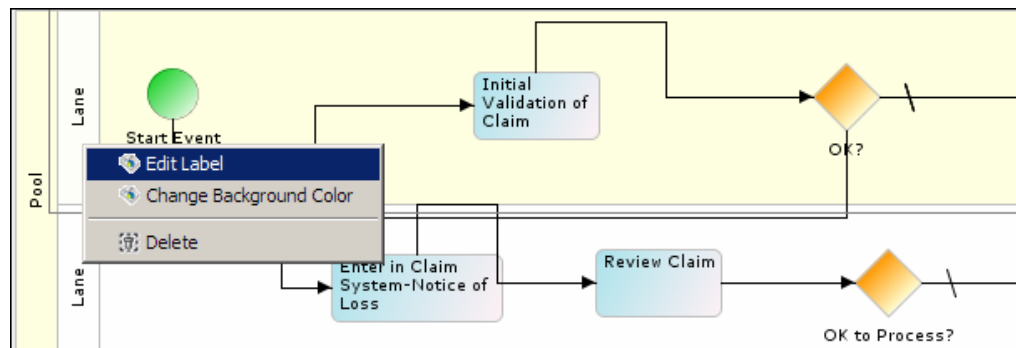

Figure 7.25: Select Edit Label for Swim Lane
1. Right-click the Swim Lane that you want to rename and select **Edit Label** option (see Figure 7.25).